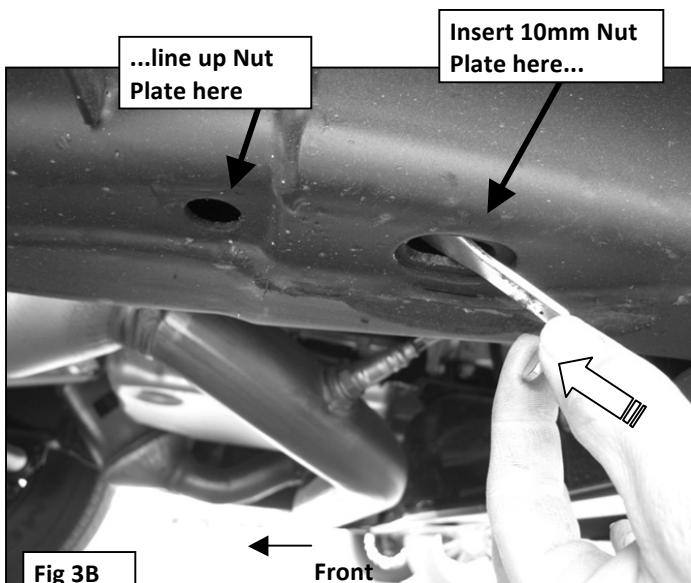

Fig 3B
3. Locate the two factory holes in the bottom of the frame towards the front of the vehicle. Insert (1) 10mm Nut Plate, **(Figure 3B)**, into the oval hole and line up the threaded nut with the forward round hole, **(Figure 3B)**.